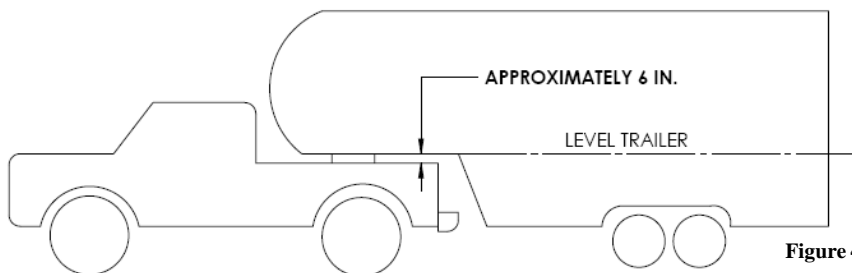

Figure 4
3. The Height of the hitch and pin box should be adjusted so the trailer is approximately level as it is towed. Allow approximately 6 in. clearance between the top of the bed and the underside of the front of the trailer for pitch and yaw of the trailer (See Figure 4). For off-road use allow more clearance between pickup walls and trailer.